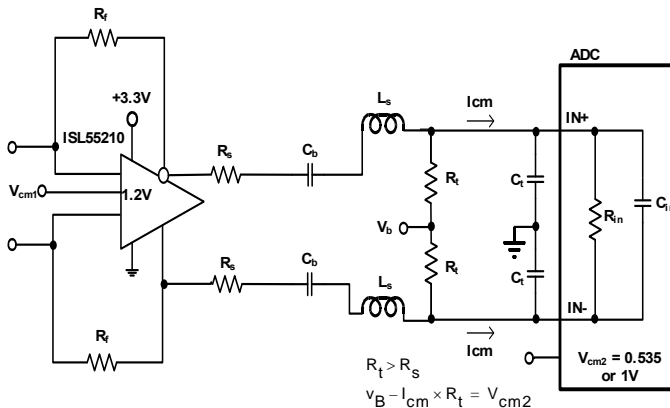
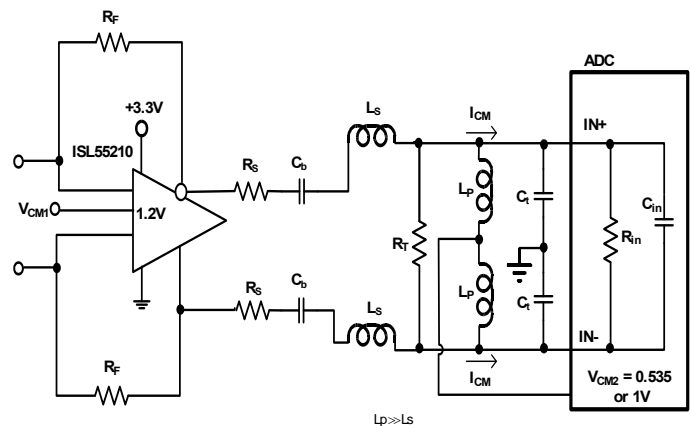

FIGURE 34. AC COUPLED, BROADBAND RLC INTERSTAGE FILTER DESIGN
FIGURE 35. AC COUPLED, HIGHER FREQUENCY RLC FILTER DESIGN
2. AC coupled, higher frequency range interstage filter design. This design replaces the R_t resistors in Figure 34 with large valued inductors and implements the filter just using shunt resistors at the end of the RLC filter (here, that is just the ADC internal differential R_{in}). In this case, the ADC V_{CM} can be tied to the centerpoint of the bias path inductors (very much like a Bias-T) to provide the common mode voltage and current to the ADC inputs. These bias inductors do limit the low frequency end of the operation where, with 1 μ H values, operation from 10MHz to 200MHz is supported using the approach of Figure 35.